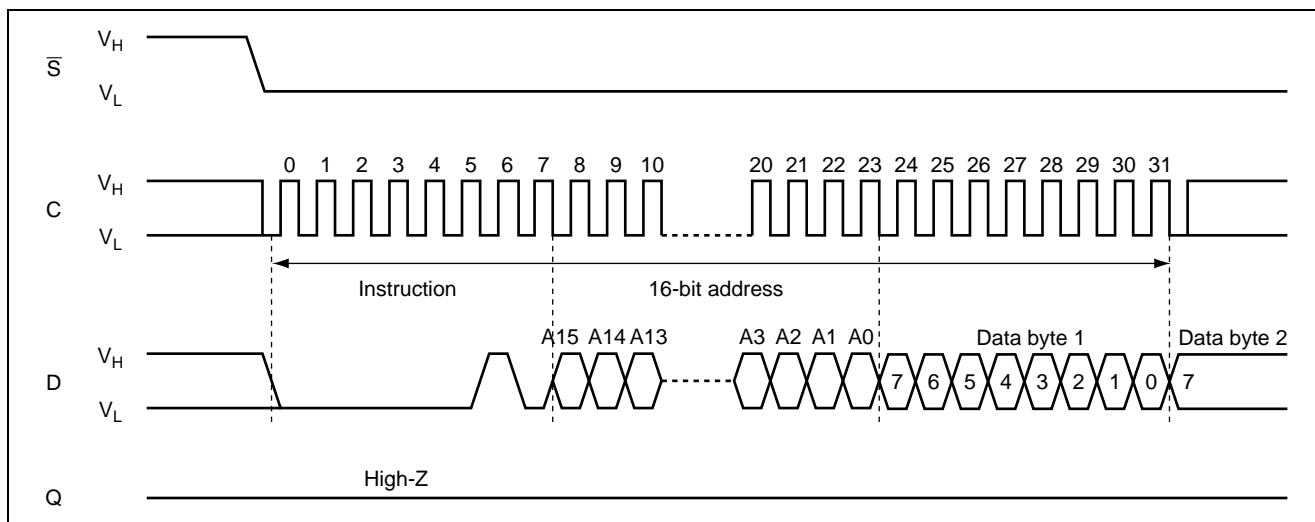

Figure 7 WRITE Sequence
As shown in figure 7, to send this instruction to the device, Chip Select ( $\overline{S}$ ) is first driven low. The bits of the instruction byte, address byte, and at least one data byte are then shifted in on Serial Data Input (D).
If Chip Select ( $\overline{S}$ ) stays low and the next byte of input data is shifted in, as shown in figure 7, the device continues to receive data while incrementing the address counter towards the end of the same page as that specified by the given address. If the number of data bytes sent to the device exceeds the page boundary, the internal address counter rolls over to the beginning of the page, and the previous data there are overwritten with the incoming data.